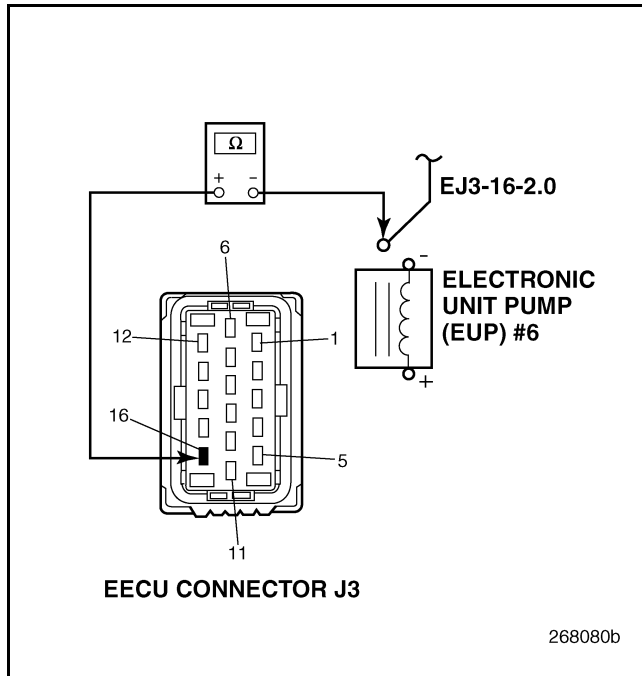

Figure 786
4. Check for continuity between circuit EJ3-16-2.0 at the EUP Solenoid 3 and EECU harness connector J3 pin 16 (see Figure 786).